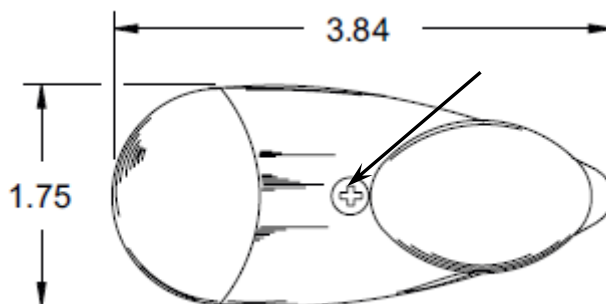

Figure 4 View to the original Position/Anti-Collision Light
1.8.14 Remove the retainer mounting screw from the original Position/Anti Collision Light (refer to Figure 4) and release the light. Remove and keep all the 3 screws from light base plate. Carefully remove the Position/Anti Collision Lights assembly and disconnect both electrical connectors.